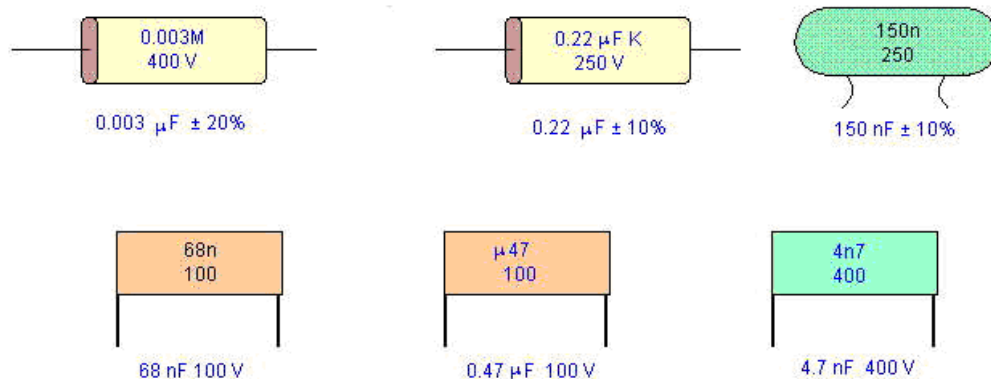

Figure 1: Plastic Film Types
- **Capacitor Identification Codes:** There are no international agreements in place to standardize capacitor identification. Most plastic film types (Figure1) have printed values and are normally in microfarads or if the symbol is n, Nanofarads. Working voltage is easily identified. Tolerances are upper case letters: M = 20%, K = 10%, J = 5%, H = 2.5% and F = $\pm 1\text{pF}$.